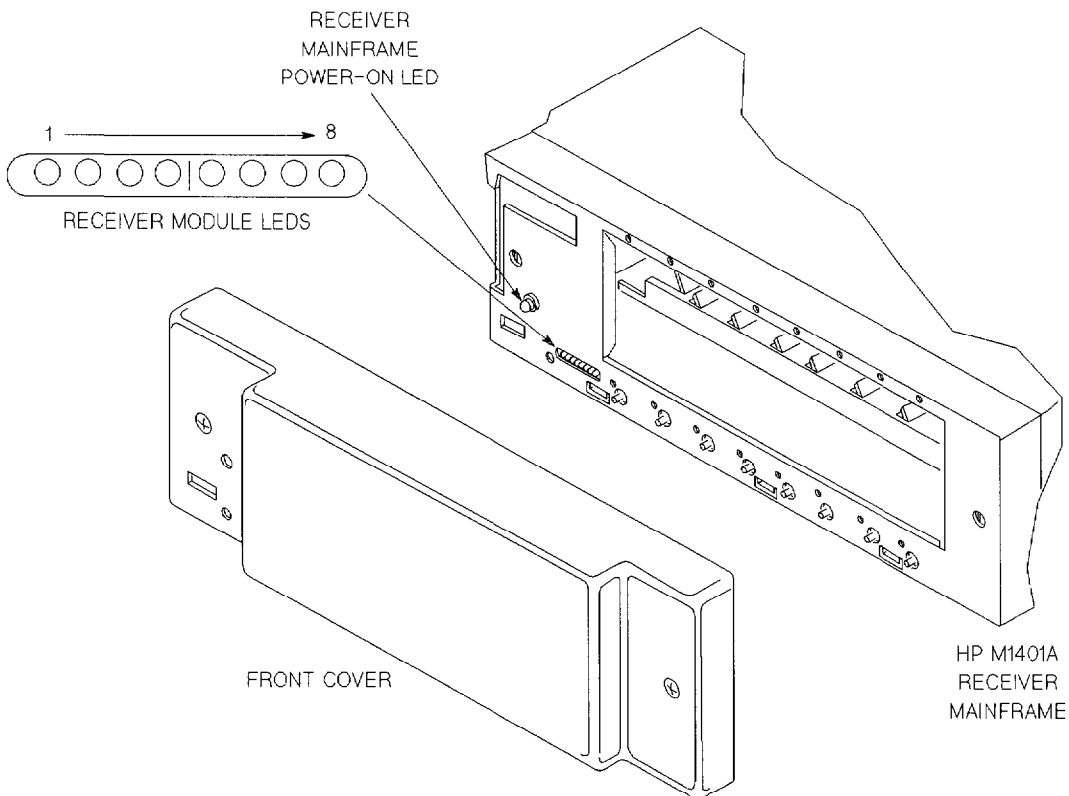

Figure 3-2. Receiver Module LED Indicators
5. Inside the mainframe, a group of repeater LEDs indicates receiver module 1–8 status (Figure 3-2). Each module LED has the following meanings: